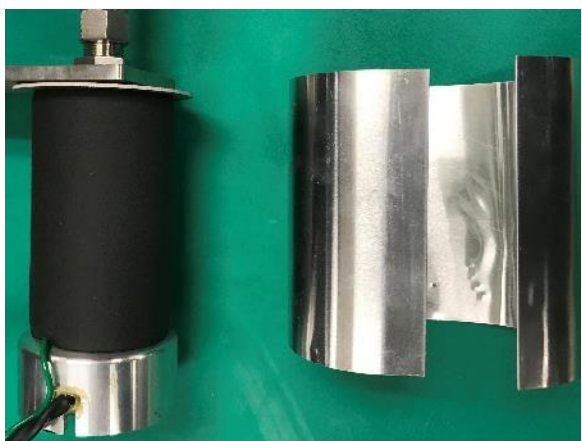

Figure 220. Remove Aluminum Rain Shield.
STEP 8 | Remove aluminum rain shield (**Figure 220**).